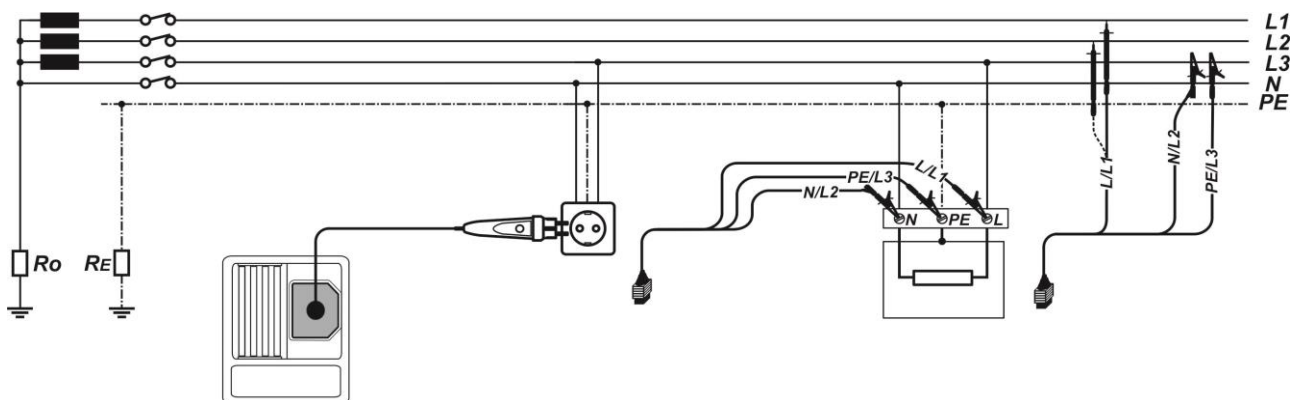

Figure 5.40: Phase-neutral or phase-phase line impedance measurement – connection of plug test cable and 3-wire test lead
- ❑ **Connect** test leads to the item to be tested (see Figure 5.40).